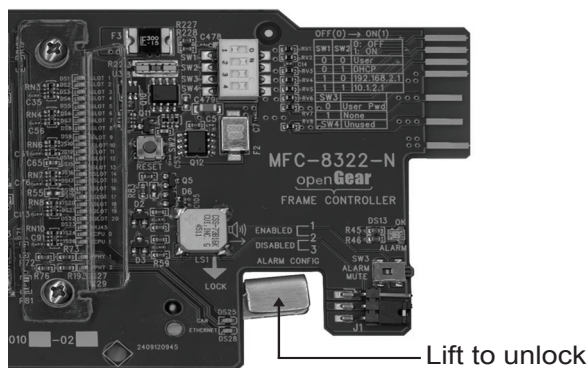

Figure 2.1 MFC-8322 Series Card — Lock
5. If you are installing an MFC-8322 series card, lift the lock before inserting the card into its slot. (**Figure 2.1**)